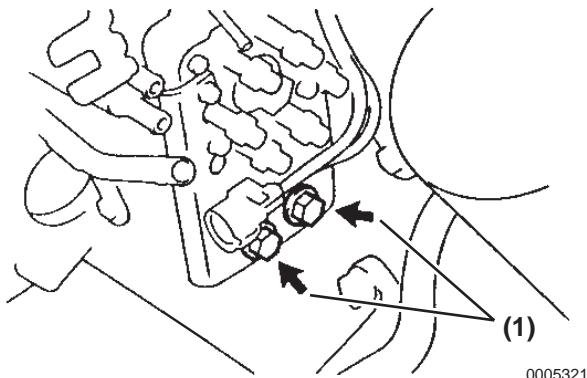

Figure 6-58
6. Install the fuel injection pump stay using two bolts (**Figure 6-58, (1)**) and torque to 700 kgf·cm, 68.65 N·m (50.6 lb·ft). *NOTICE: Check that the pump stay is lifted to contact with the fuel injection pump before tightening to the specified torque. If there is a gap, loosen the bolt securing the pump stay to the cylinder block and lift the pump stay until it comes into contact with the fuel injection pump.*